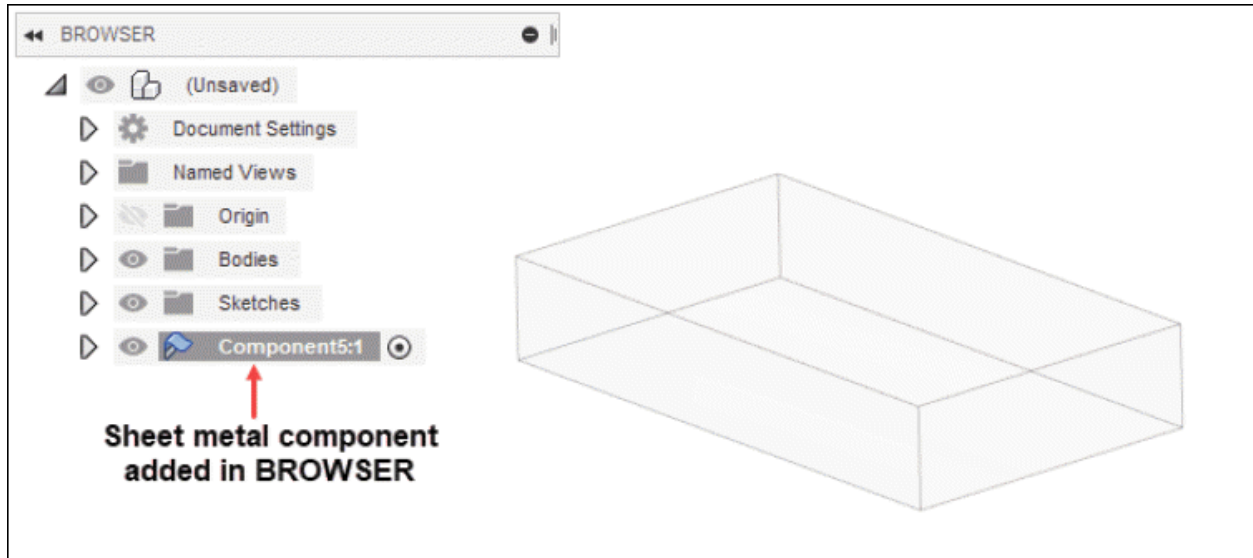

Figure-9. Sheet metal component created
- After specifying parameters for sheet metal component, click on the **OK** button from **NEW COMPONENT** dialog box. A sheet metal component will be created; refer to Figure-9.